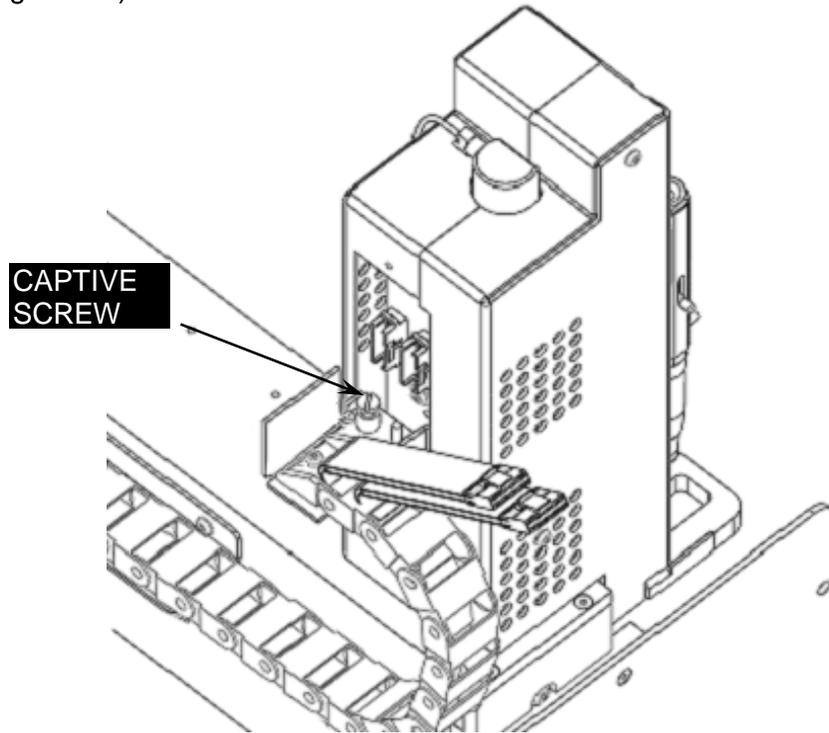

Figure 7-3: Removing the Captive Screw
3. Remove the Captive Screw securing the assembly to the end of the Y drive Igus chain (Figure 7-3).